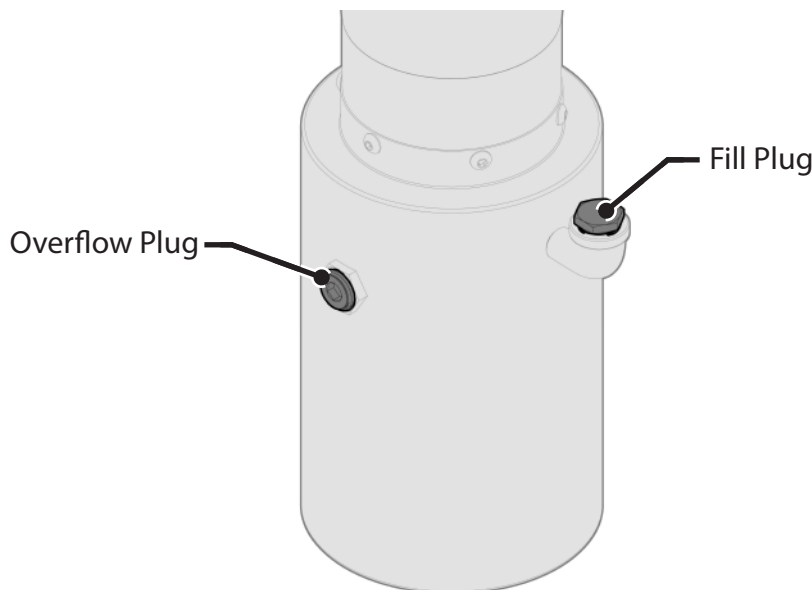

Figure 18: Hydraulic Oil Reservoir
3. Loosen the Overflow Plug slightly (DO NOT REMOVE). See **Figure 18**